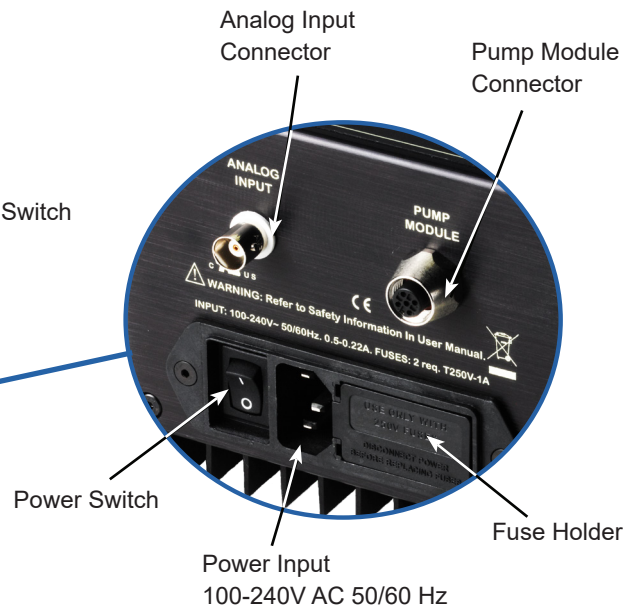

Fig. 2
**a) 0-5 VOLT MODE.** Use this mode to remotely control the speed with a voltage source of 0 to 5V DC. This voltage level interface utilizes the "ANALOG INPUT" connector on the control module to connect to the user's voltage source (see Fig. 2).
**b) 0-10 VOLT MODE.** Use this mode to remotely control the speed with a voltage input source of 0 to 10V DC. This voltage level interface utilizes the "ANALOG INPUT" connector on the control module to connect to the user's voltage source. Standard RG58 or other coaxial cable should be utilized for inducted noise immunity. (See Fig. 2 for cable connections.)
The input is isolated to allow the control module to be inserted anywhere into a current loop that does not exceed  $\pm 30$  volts from earth ground. The speed is displayed as a percentage of the fastest rate. The speed is limited to a minimum of 5.0% and a maximum of 100.0%. If the control current results in less than the minimum of 5.0% the display will alternate three dashes and the control current percentage, indicating you are under the limit. (See Fig. 2 for cable connections.)
**8.5. CONNECTING TO THE MAIN POWER (AC POWER).** The V300 utilizes a standard "IEC" style power cord. The unit ships with a North American power cable and may require a country specific power cable for your locality. In any case, the V300 must be connected to an approved grounded outlet of suitable AC voltage designed for 100 to 240V AC at 50 or 60Hz. Your local distributor can supply you with the proper power cord for your needs. (See Fig. 2 for cable connections.)